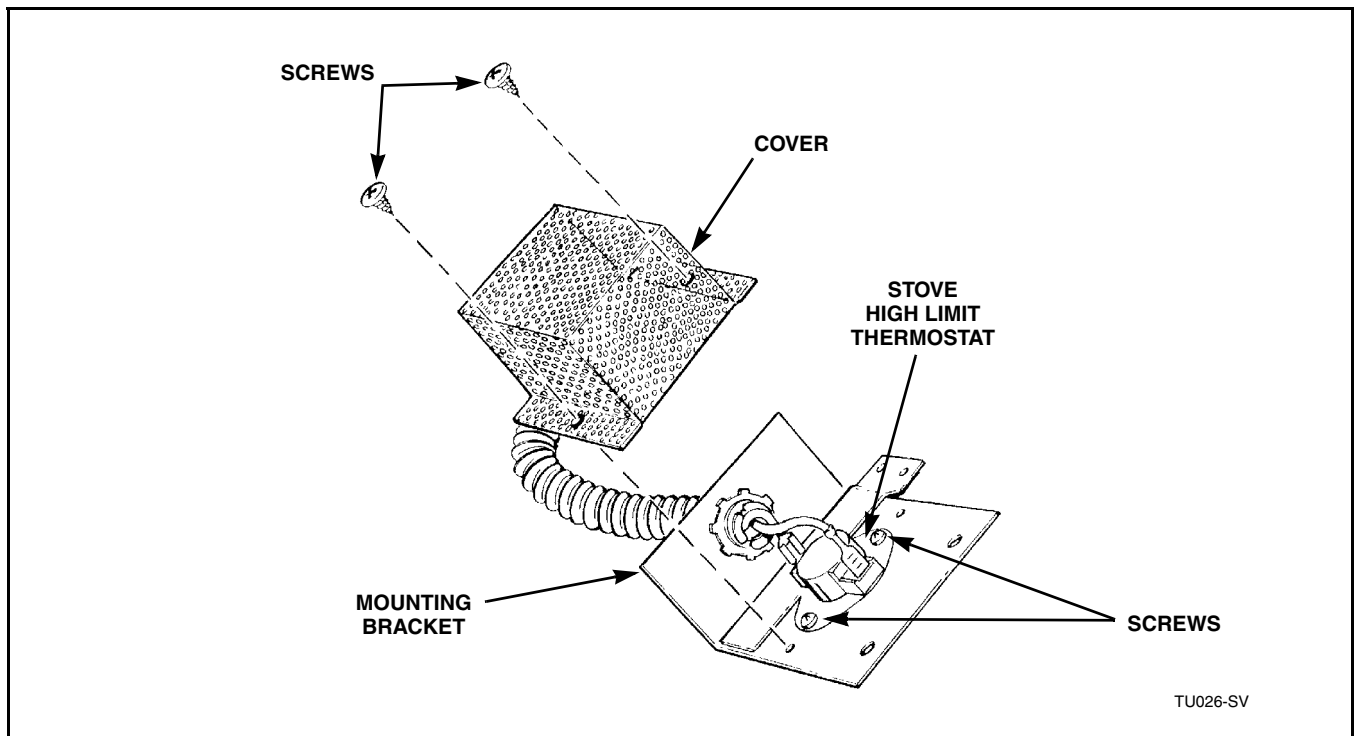

Figure 5
- Remove two screws holding cover to mounting bracket. Refer to *Figure 5*.
- Remove two screws holding thermostat to mounting bracket. Refer to *Figure 5*.